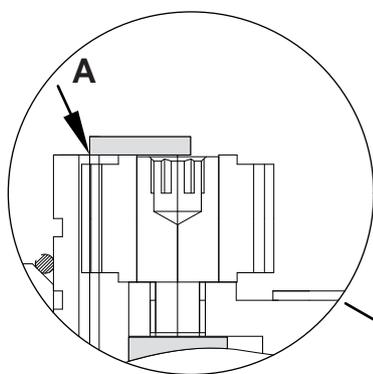

Fig. 5.13
- 5.18) Place the washer **pos. 5** on the crown **pos.31**. Make sure everything has been assembled correctly, checking there is no friction between part **pos.5** and the gears **pos.29**, see **fig. 5.13**.